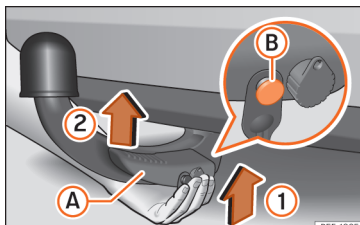

Fig. 172 Putting the tow hook in place. Step 1.
- Hold the tow hook **from below** and fit it into the hook housing in the direction of the arrow » **Fig. 172 ①** until it is heard to fit into place » **△**.
Lever »» Fig. 172 (A) automatically turns in the direction of arrow (2) upwards, and the release bolt (B) moves outwards (its red and green parts are visible) »» ⚠.
- Keep your hands away from the lever when fitting the tow hook to avoid trapping your fingers »» Fig. 172 (A).